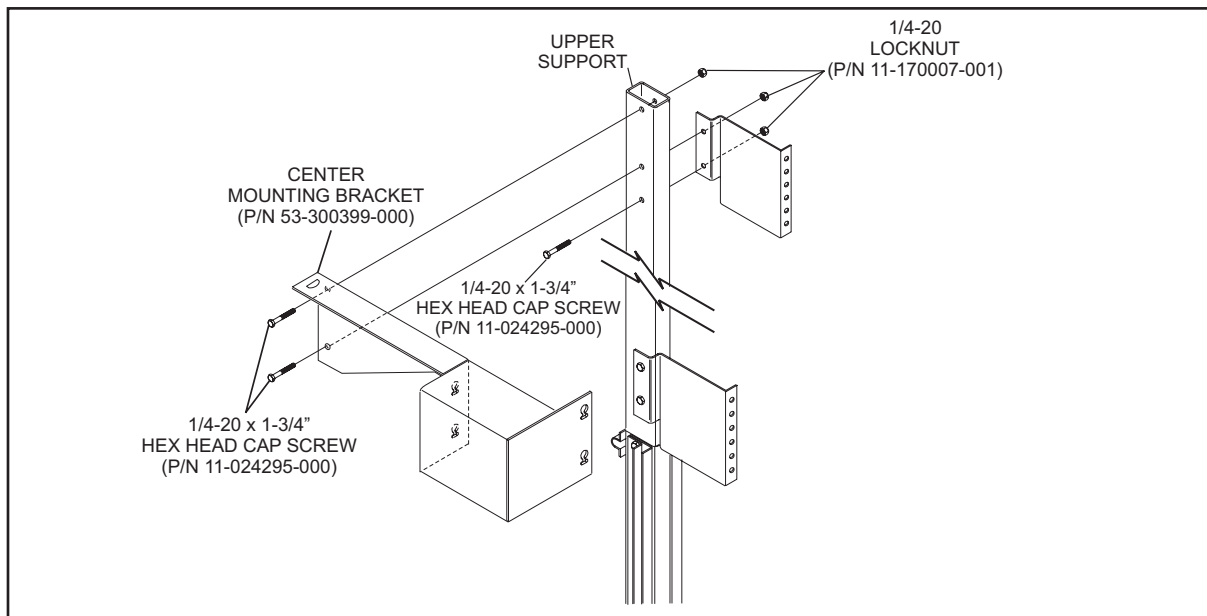

Figure 23
1. Install the intermediate support assembly “D” projection screen mounting bracket and upper graphic standoff. Refer to *Figure 23*.